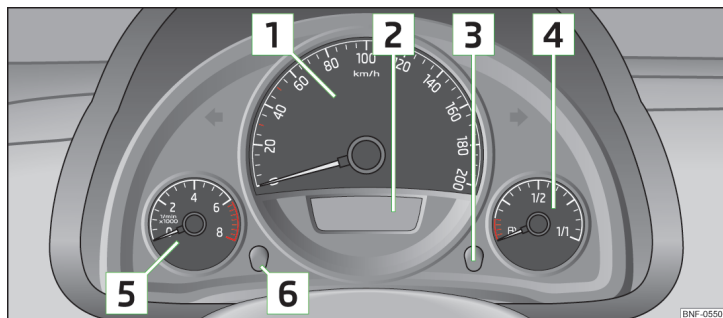
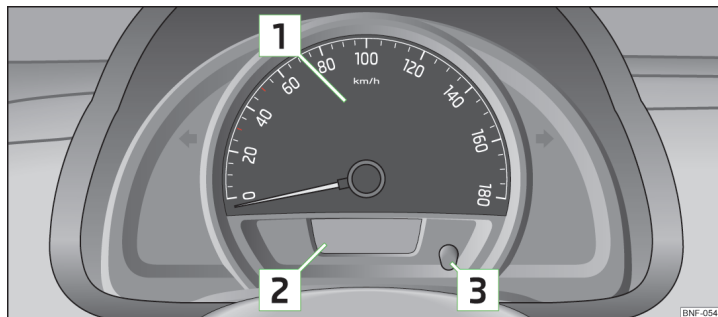

Fig. 18 Instrument cluster - Version 1
Fig. 19 Instrument cluster - Version 2
The tachometer **5** » Fig. 19 on page 28 shows the actual engine speed per minute.
To toggle between the odometer and the counter for the distance travelled (trip), briefly press the button  » Fig. 18 on page 28 or » Fig. 19 on page 28.
► Press and hold the  » Fig. 18 on page 28 or » Fig. 19 on page 28 button.